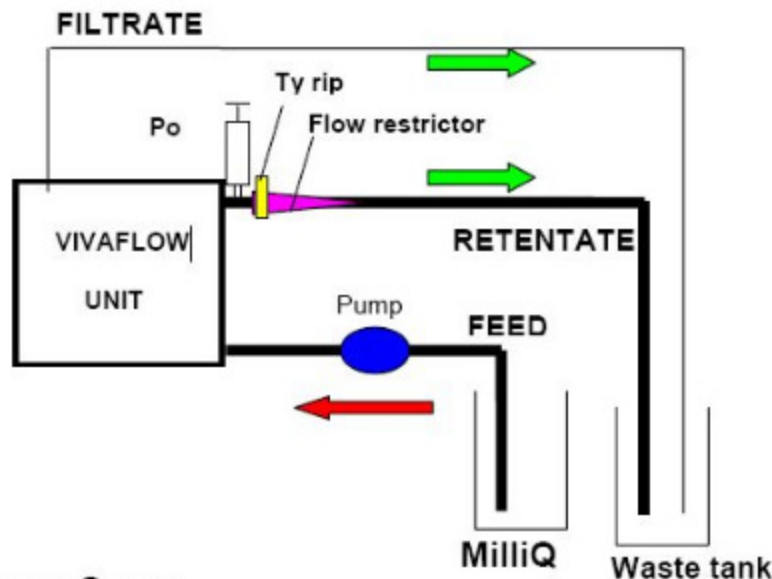

FIG 1. FLUSHING SET UP
- 2 Mount Vivaflow cartridge as Fig. 1 (image de C. Brussaard) in open circuit.
- 18 Go back to Fig. 1 configuration (Open circuit)
- 24 Rinse with 250 mL of MilliQ water (Fig. 1)